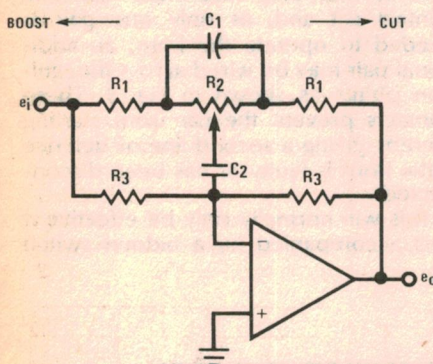

Fig. 1: typical octave equaliser section.
A midrange tone control circuit can be used separately to make a convenient ten band octave equaliser. Design equations result from a detailed analysis of Fig. 1, where a typical circuit is shown. Resistors R3 have been added to supply negative
Writing the transfer function for Fig. 1 in its general form for maximum boost (assuming only that R3 is very much greater than R1) results in Eqn. (1):